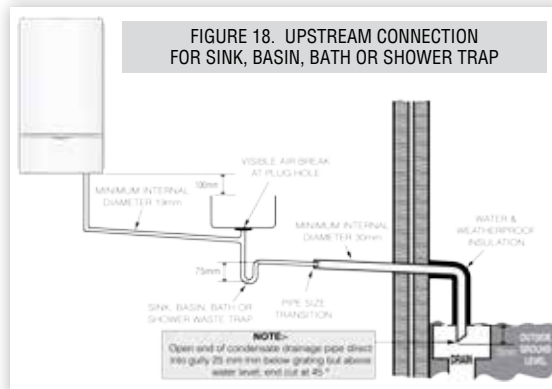

FIGURE 18. UPSTREAM CONNECTION FOR SINK, BASIN, BATH OR SHOWER TRAP
- an internal kitchen or bathroom waste pipe, washing machine waste pipe etc. A suitable permanent connection to the foul waste pipe should be used. Figures 18 to 20 show appropriate connection methods.